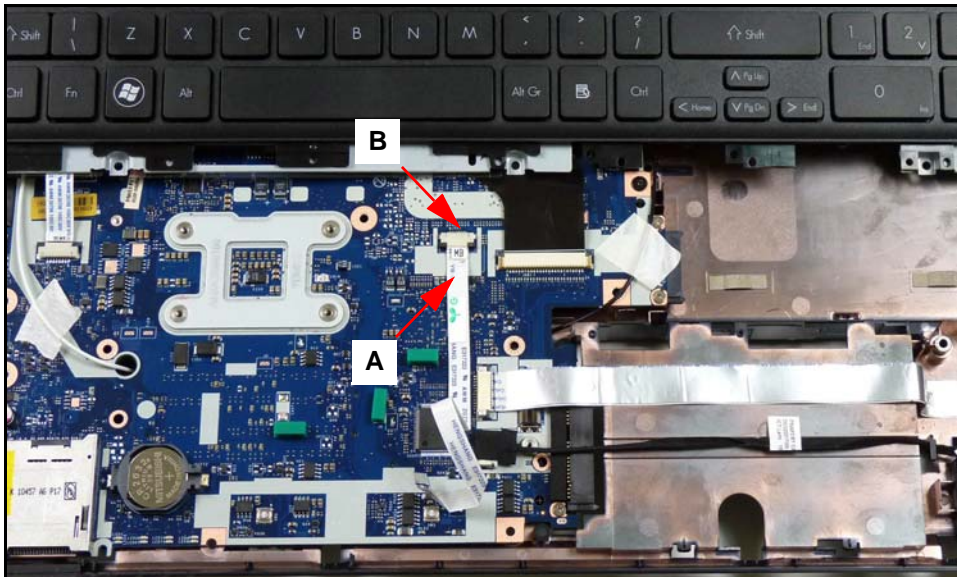

Figure 3-42. Upper Cover Overview
1. Locate touchpad board (A) on mainboard (Figure 3-42).
1. Install and connect touchpad FFC (A) to mainboard connector (B). (Figure 3-42)